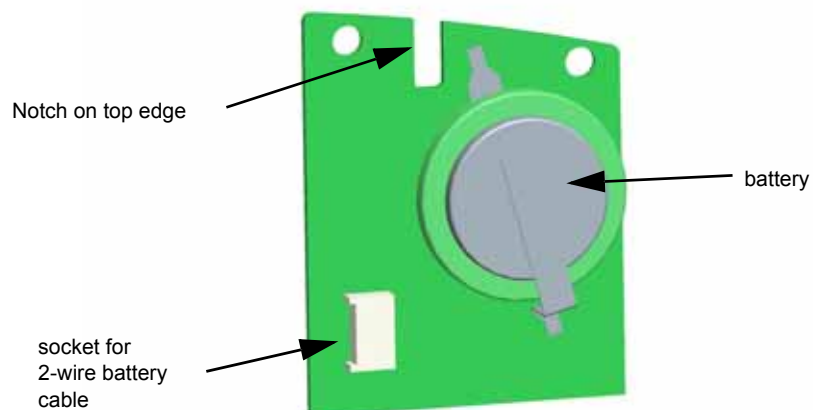

Figure 41: New battery board
5. Take the new battery board (Figure 41), and plug the two-wire battery cable into it. |